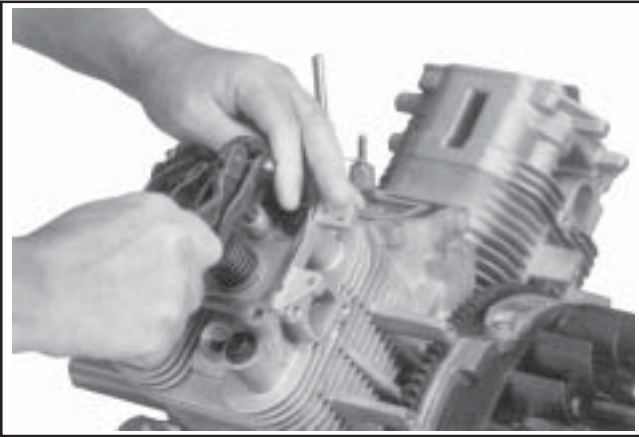

Figure 11-47. Using Spanner Wrench to Lift Rocker Arm Over Push Rod.
4. Use a spanner wrench or rocker arm lifting tool (see Section 2) to lift the rocker arms and position the push rods underneath. See Figure 11-47.